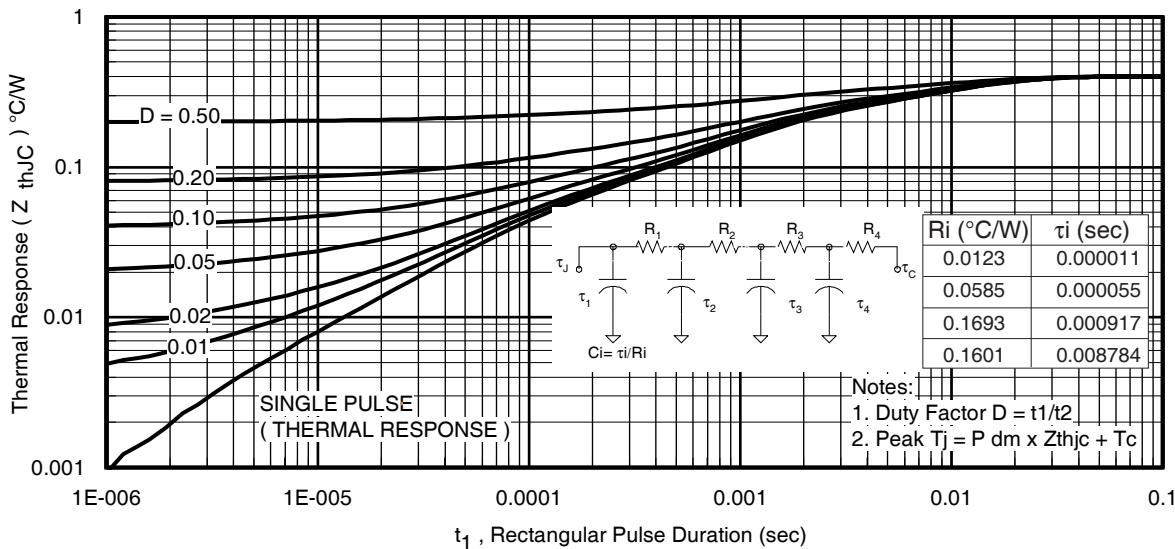

Fig 13. Maximum Effective Transient Thermal Impedance, Junction-to-Case
- $Z_{thJC}(D, t_{av})$  = Transient thermal resistance, see Figures 13